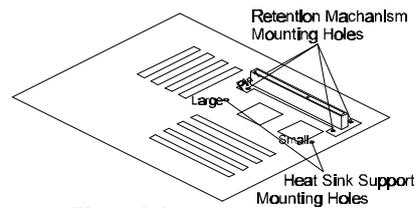

Figure 2-2
1. Finds out the Retention Mechanism (RM) Mounting Holes and "Pin 1" mark of Slot 1 on H0T-637 main board. (Refer to Figure 2-2)